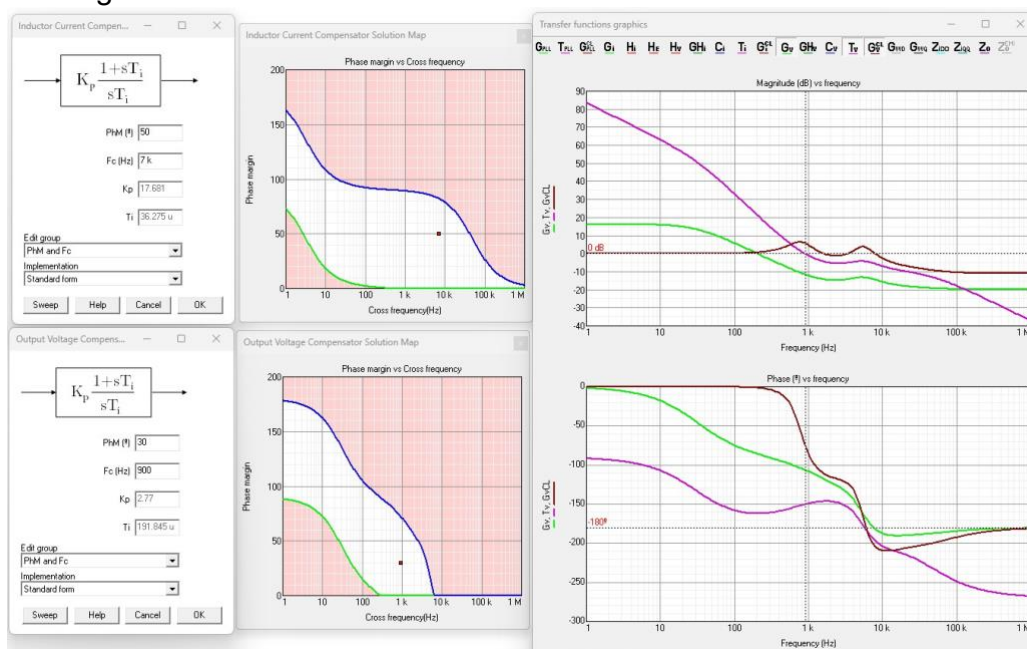

Figure 14: Outer voltage loop design
11. To design the outer loop, it is recommended to open the voltage compensator window by clicking on the button **C_v**. Additionally, we open the solution map by clicking on the button **5M** **C_v**. See Figure 14. In the bode plot window, the frequency response of the voltage plant is displayed by clicking on the **G_v** button, the frequency response of the open-loop transfer function is displayed by clicking on the **T_v** button and the frequency response of the closed-loop transfer function is displayed by clicking on the **G_v^{CL}** button.